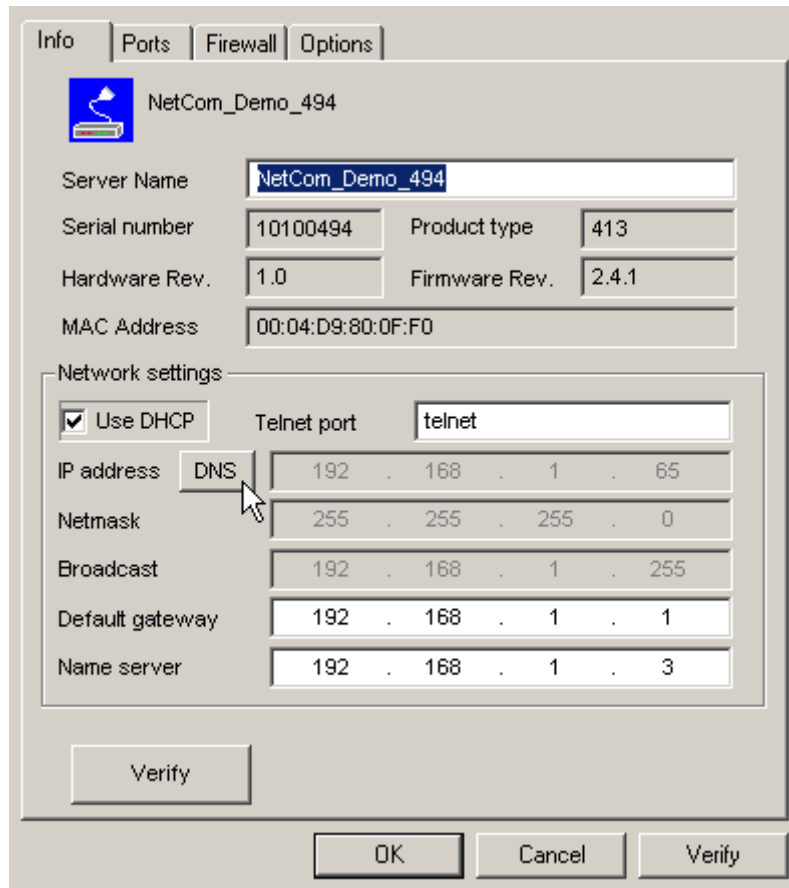

Figure 23: Define NetComs IP Configuration
**4.1.2.2 Configure Firewall** As you will notice in figure 23 the driver may also operate by traversal of a Network Firewall. This requires a special configuration, which is skipped here. Please read in detail in section 5.6 on page 52. For now proceed with the standard installation.